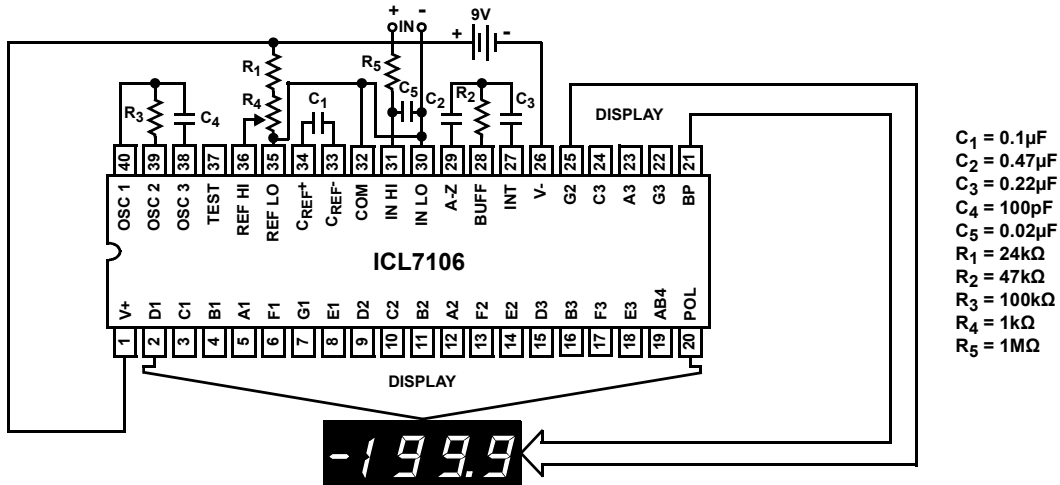
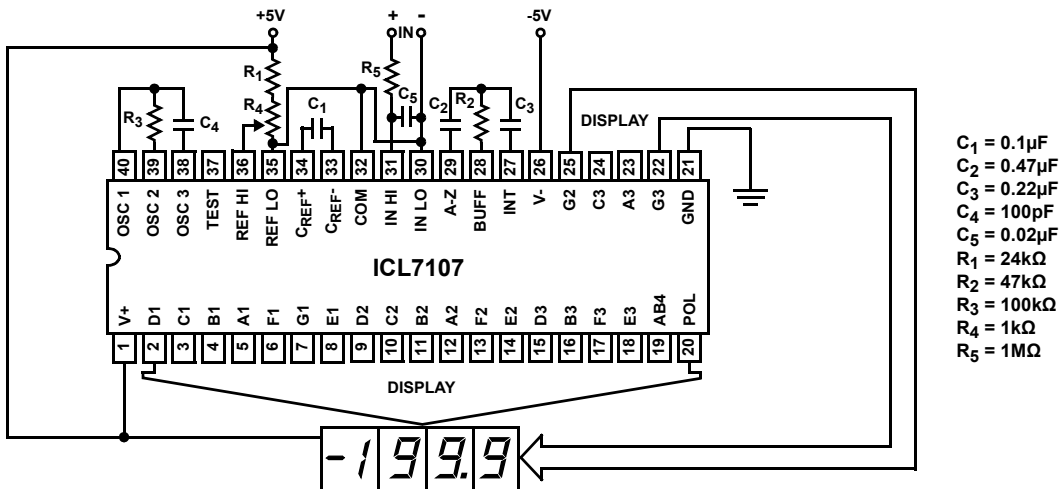

FIGURE 1. ICL7106 TEST CIRCUIT AND TYPICAL APPLICATION WITH LCD DISPLAY COMPONENTS SELECTED FOR 200mV FULL SCALE
FIGURE 2. ICL7107 TEST CIRCUIT AND TYPICAL APPLICATION WITH LED DISPLAY COMPONENTS SELECTED FOR 200mV FULL SCALE
- Unless otherwise noted, specifications apply to both the ICL7106 and ICL7107 at  $T_A = +25^\circ\text{C}$ ,  $f_{\text{CLOCK}} = 48\text{kHz}$ . ICL7106 is tested in the circuit of Figure 1. ICL7107 is tested in the circuit of Figure 2.